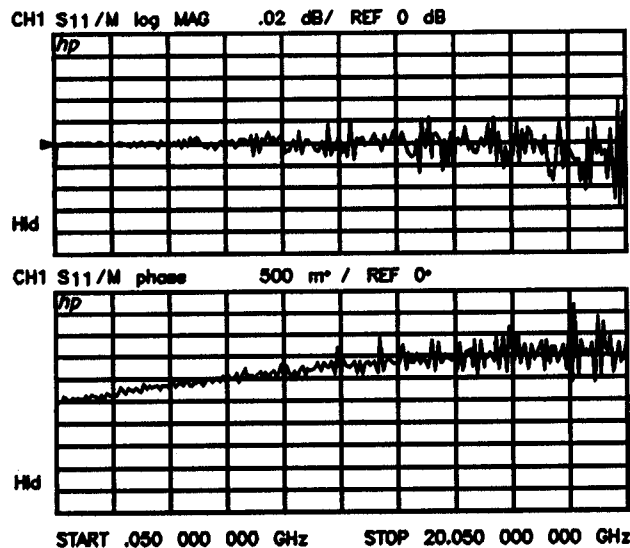

Figure 4–3. Cable Magnitude and Phase Stability
7. Place a marker on the largest deflection that goes above and below the reference line and is within the specified frequency range. See Figure 4–3 for example plots of this measurement. Press: